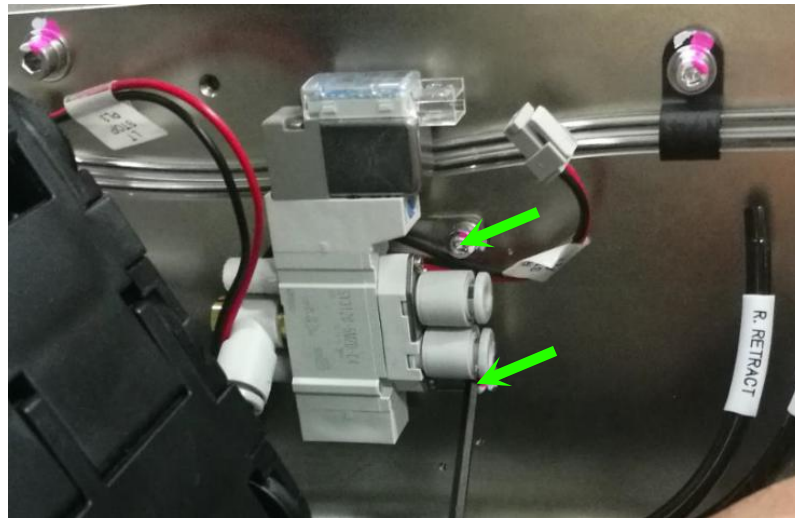

Figure 8 Right PIP Pneumatic Valve Assembly
11. Assemble “Safety Stop Pneumatic Controller Kit” at Right PIP Pneumatic Valve Location. Tighten 2 x Screws as below Figure 8